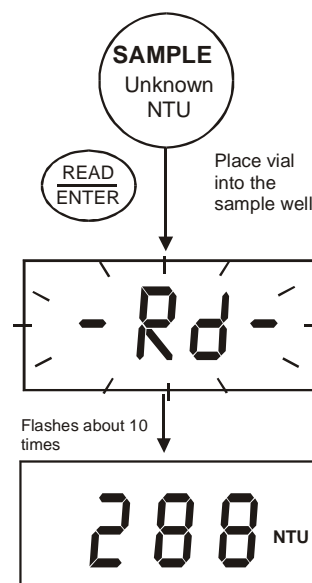

Figure 10: Value turbidity
3. Insert the CAL 1 standard (800 NTU) into the sample well, aligning the mark on the vial with the mark on the meter. See Figure 10